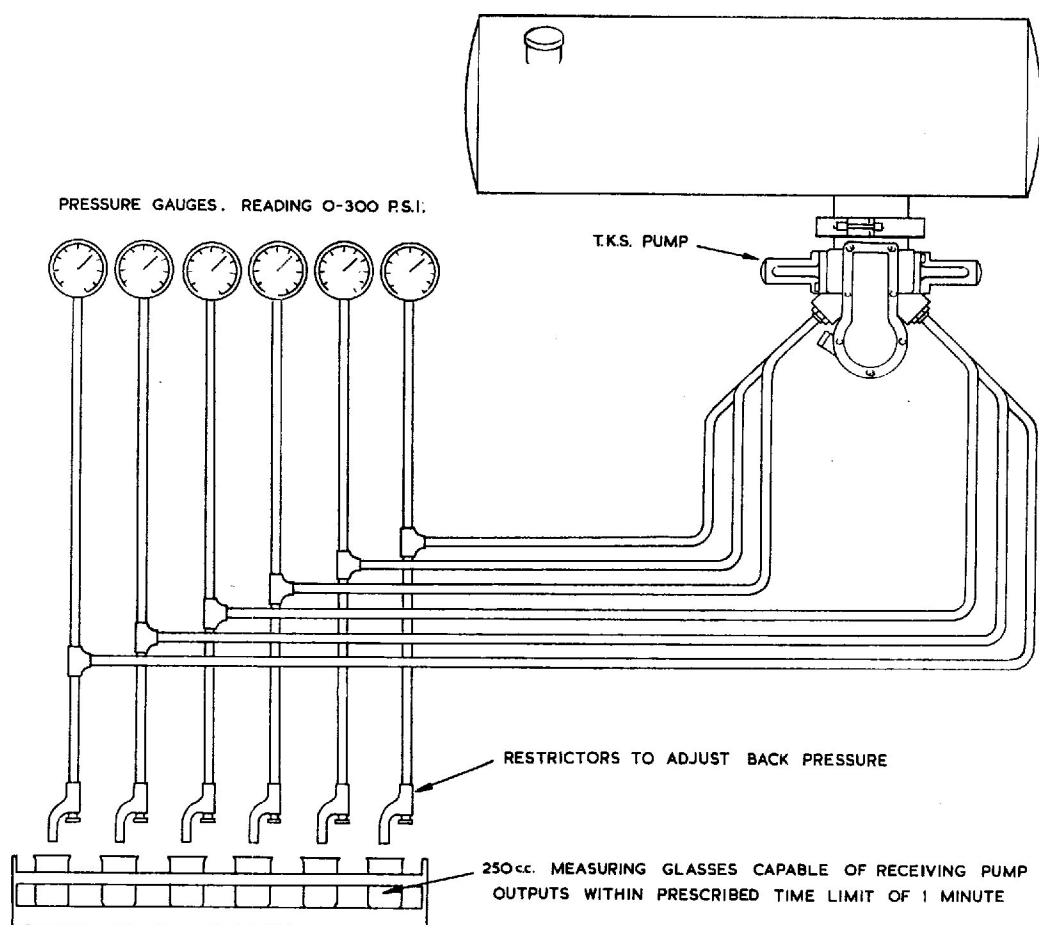

Fig. 6. Test rig for T.K.S. de-icing pump Type XA9500 series
19. The pump should be fitted to a suitable test rig, similar to that shown in fig. 6 and tested in accordance with the procedure set out in the appropriate appendix.
2. Connect the pump to a suitable test rig as shown in fig. 6 of the main chapter and fill the tank with oil DTD 900/4598 or DTD 900/4456. Set the back pressure to 50 lb/in2 and check the delivery over a period of one minute. The following delivery rate should be obtained within the tolerance of  $\begin{smallmatrix} +10 \\ -0 \end{smallmatrix}$  cc/min.
3. Connect the pump to a suitable test rig similar to fig 6 of the main chapter and fill